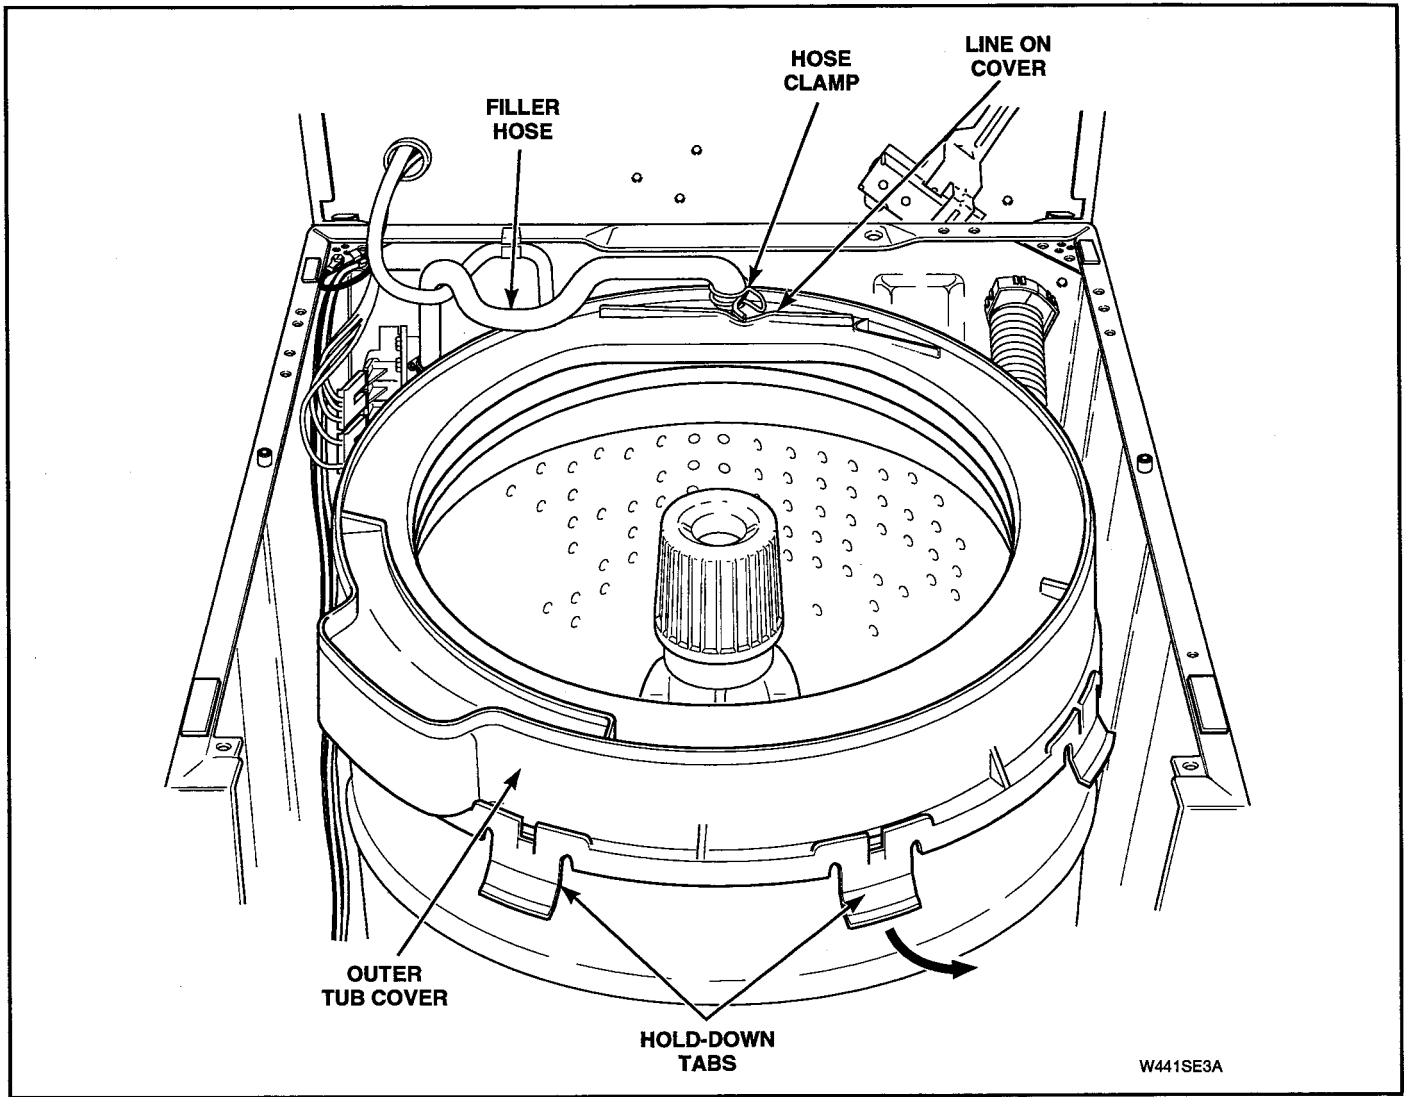

Figure 5-26
- Loosen hose clamp and remove filler hose from outer tub cover. See Figure 5-26.
NOTE: When installing filler hose, white line on hose must be aligned with line located on top side of outer tub cover. See Figure 5-26.
- h. Loosen hose clamp and remove filler hose from outer tub cover. See Figure 5-26.
NOTE: When reinstalling filler hose, white line on hose must be aligned with line located on top side of outer tub cover. See Figure 5-26.